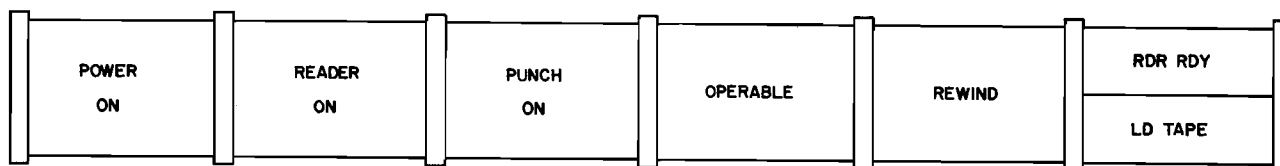

Figure XI-17. Paper Tape Control and Indicator Panel
- k. Depress the POWER ON and OPERABLE switches on the paper tape control and indicator panel (Figure XI-17) to turn power on and clear the circuitry. Switches will be illuminated when on.
- (1) On the console of the central processor, issue a PON command, octal designation (2500015)g.
6. Depress the POWER ON and OPERABLE switches on the paper tape control and indicator panel (Figure XI-17) to turn power on and clear the circuitry. Switches will be illuminated when on.
2. Depress the POWER ON and OPERABLE switches on the paper tape control and indicator panel (Figure XI-17) to turn power on and clear the circuitry. Switches will be illuminated when on.